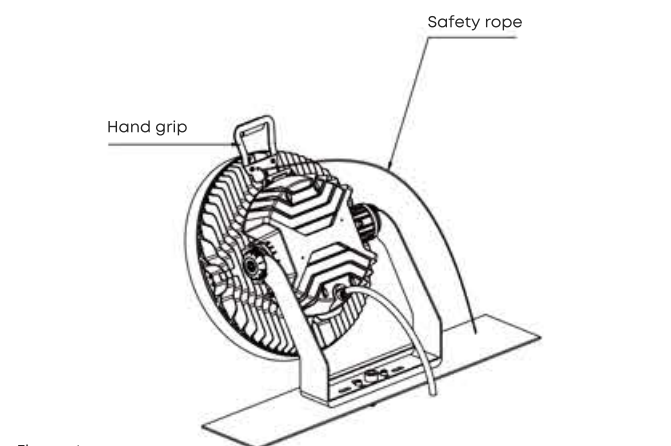

Figure-6
- 1) Fasten one end of the safety rope to the hand grip and the other end to the pole on site, as shown in Figure-6.